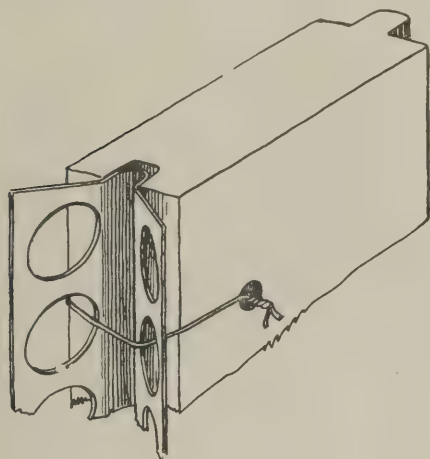

Fig. 1
F. M. W., a civil engineer of Norfolk, Va., writes: "Metal corner beads are sometimes awkward to get up straight, especially when they are in long lengths. The accompanying sketch, Fig. 1, shows my way of putting them up. Set the bead corner of the metal corner bead into the groove of a